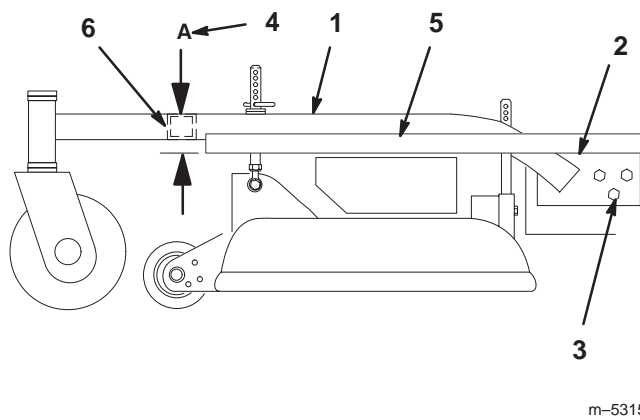

Figure 45
2. Place a long straight edge on top of the engine deck as shown in figure 45.
3. At the carrier frame cross tube, measure location “A” height (Fig. 45). This measurement must be 2–13/16 in., plus or minus a 1/4 in.
5. Loosen the carrier frame mounting bolts on both sides of the machine (Fig. 45).
6. Align the carrier frame and engine deck to match 2–13/16 in., plus or minus a 1/4 in. at location “A” (Fig. 45).